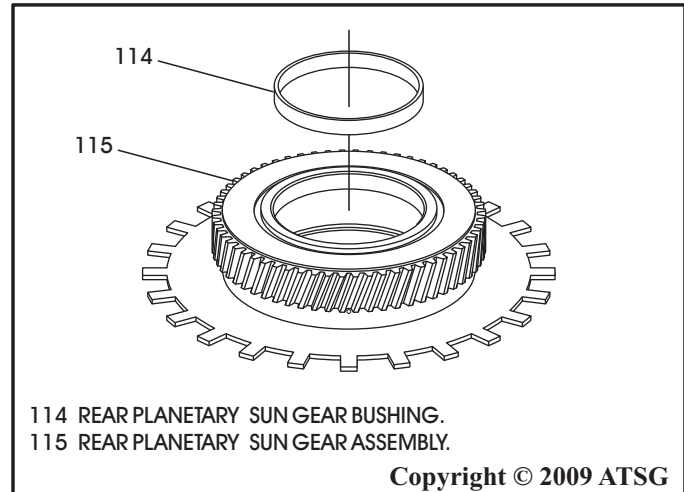

Figure 116
6. Install new bushing as necessary in rear planet sun gear, as shown in Figure 116, using the proper driver.